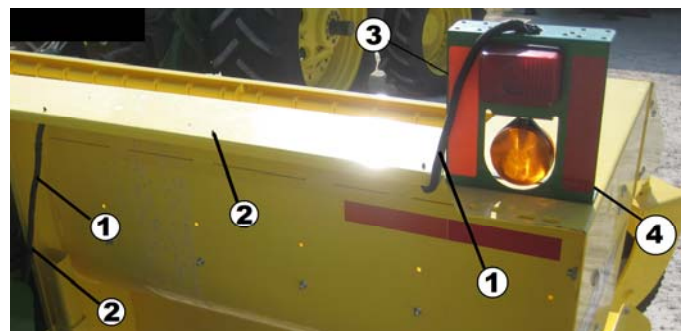

Figure 10. Light Mount
- install the light bracket on the end of the hay pickup as indicated in Figure 10 using existing hardware. The red reflective decal must be facing the rear of the machine.
- secure the wire harness to the pickup attachment using the clips around the wire harness as indicated in Figure 10.